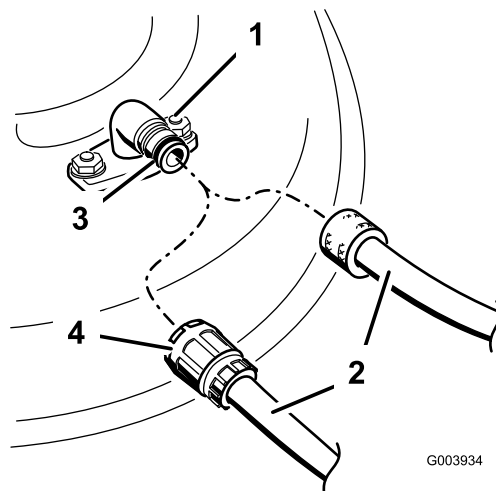

Figure 47
4. Attach a hose to the washout fitting, and turn the water on high (Figure 47).